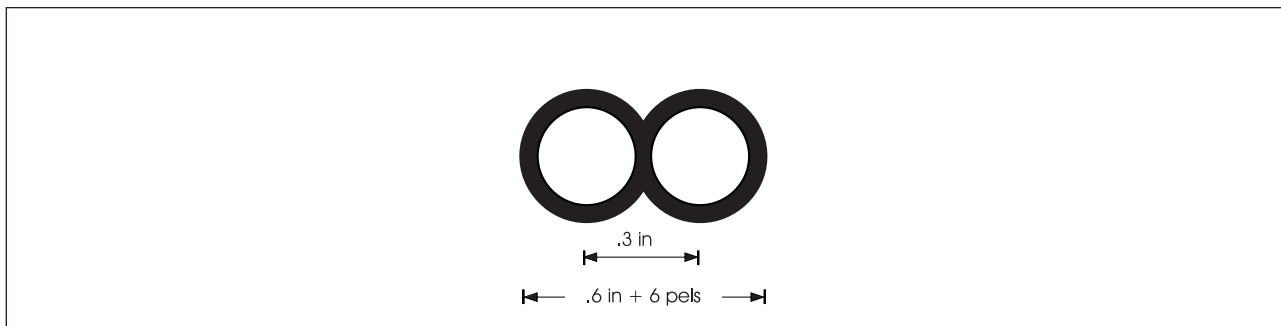

Figure 182. Circles with **DIAMETER** Spacing. These are circles with radius 0.15 inches and 6 pel borders (not actual size).
1. The default spacing (**DIAMETER**), causes the circle centers to be spaced one diameter apart, which means that the diameters are just touching one another. See Figure 182 on page 222.